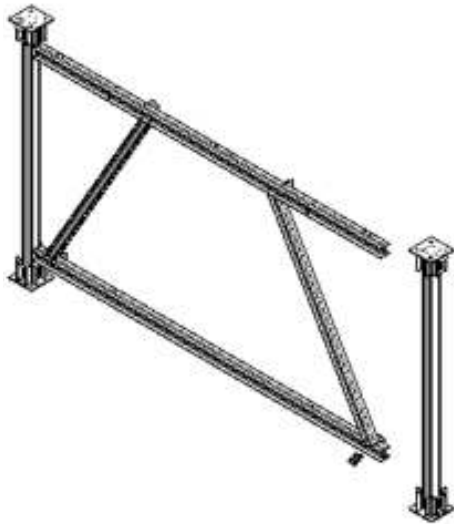

Fig. 5.1
1. Premounting of two SP-props 300 and one SP-frame (the connection between SP-frame and SP-props 300 is made by means of 4 x 2 hexagonal bolts M12x35 with washer M12 and hexagonal locking nut M12). When assembling and fixing the unit, it must additionally be secured against tilting and slipping (Fig. 5.1).